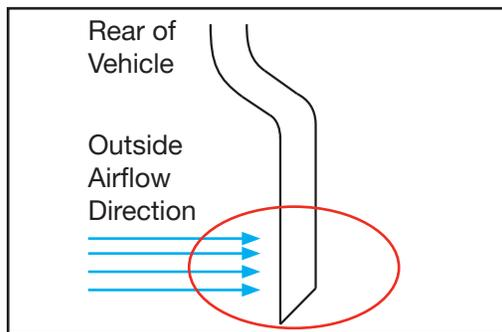

Figure 2: Outlet Vent for Open Configuration
- Ensure that the venting location of the outlet is on the rear of the vehicle (or the bottom rear of the engine compartment) and pointing vertically downward (see Figure 2).